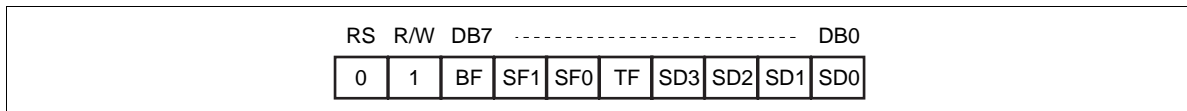

Figure 5 Busy Flag/Key Scan Read Instruction
The busy flag/key scan read instruction (Figure 5) reads scan data SD3 to SD0 latched into scan registers SCAN0 to SCAN7, scan cycle state SF1 and SF0, and transfer flag TF, sequentially. It also reads the busy flag (BF) indicating that the system is now internally operating on a previously received instruction. If BF is 1, the internal operation is in progress. The next instruction will not be accepted until BF is cleared to 0. Adjust the data transfer rate so that the last bit of the next instruction is received after BF is cleared to 0.